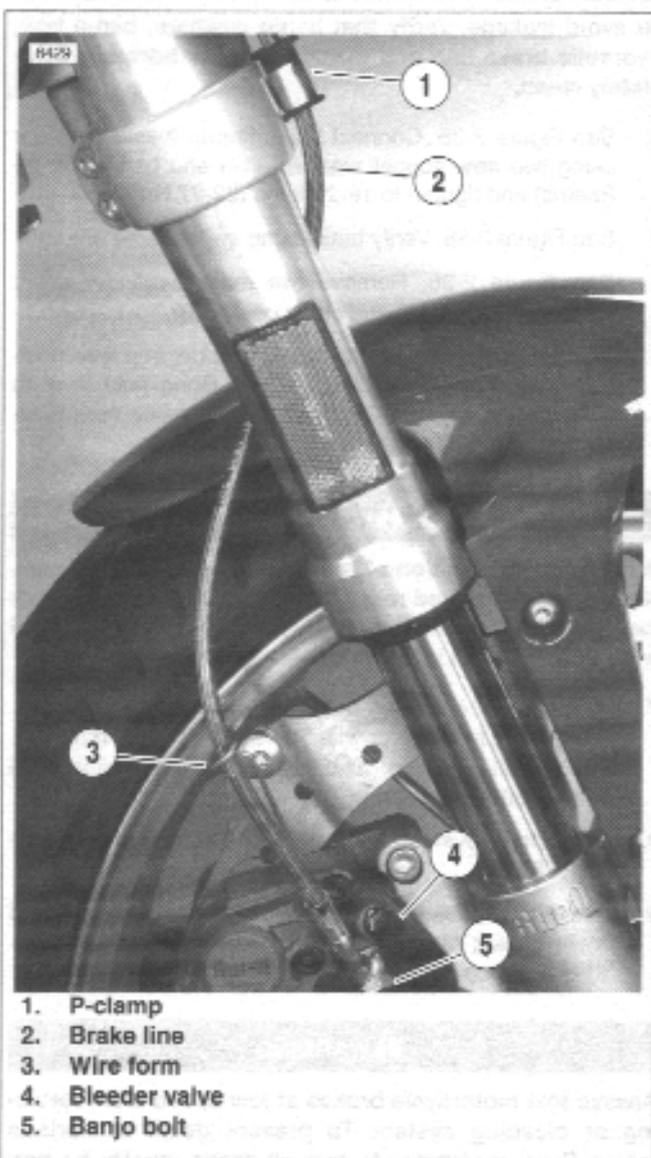

Figure 2-38. Front Brake Line
2. See Figure 2-38. Remove p-clamp (1) detaching brake line from right side of lower fork clamp.
4. See Figure 2-38. Remove caliper banjo bolt (5) (metric), two copper washers and wire form (3) to disconnect brake line (2) from caliper. Discard copper washers.
- a. See Figure 2-38. Install **new** copper washer, brake line (2), **new** copper washer and wire form (3) onto banjo bolt (5).
- b. Finger tighten banjo bolt (5) onto front caliper being careful not to pinch wire form (3) while tightening, wire form should rotate around banjo bolt freely.
- c. Twist brake line (2) into wire form (3) spiral and clock wire form against bleeder valve (4).
4. Tighten p-clamp with fastener (1) on lower triple clamp to 36-60 in-lbs (4-7 Nm).
- See Figure 2-38. Tighten brake caliper banjo bolt (5) (metric) to 16-20 ft-lbs (22-27 Nm).